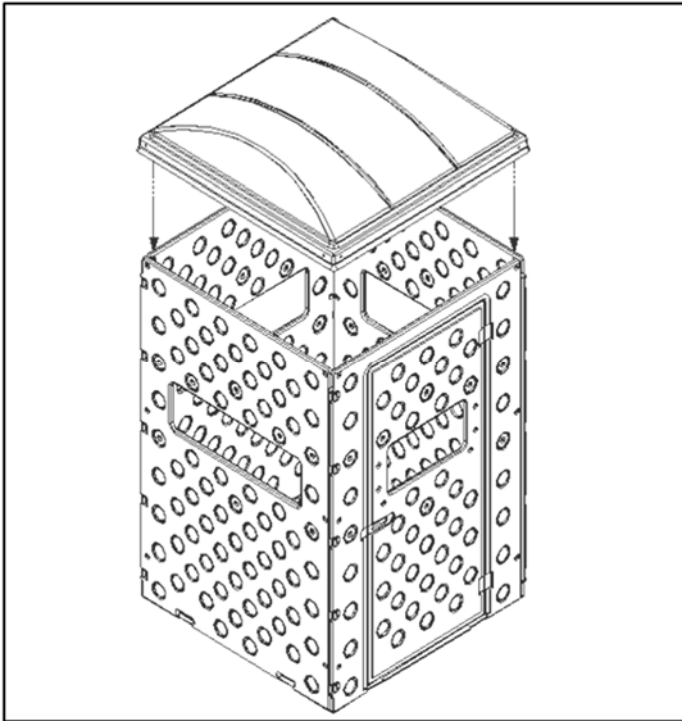

Fig7 – Install Roof Panel
Step 3. Place roof panel on assembled wall panels (see fig 7) and secure the roof panel to wall panels in all four corners using provided cable ties (see fig 8).